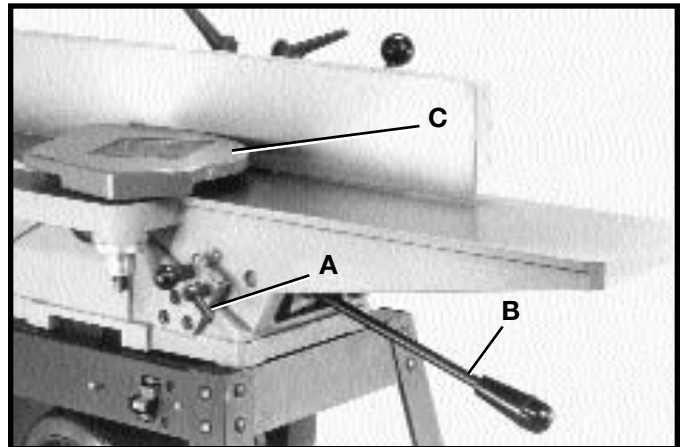

Fig. 39
2. Loosen locklever (A) Fig. 39, and lower the infeed table by pushing lever (B) down. Remove cutterhead guard (C).